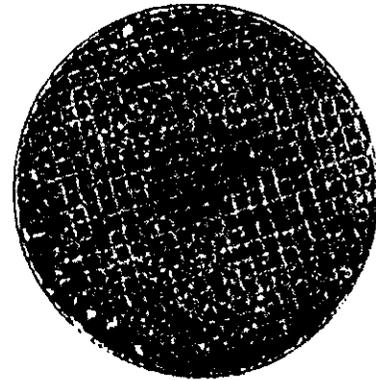

Figure 21
- Plugging (Figure 21)** The catalyst cells can be plugged with char, fly ash, or creosote. Burning garbage, cardboard, or wrapping paper produces excessive amounts of char and ash. Creosote plugging occurs when burning wet or pitchy wood or large loads on very low draft settings without allowing the catalyst to properly warm up and initiate burning. In general, creosote will not form on hot surfaces. If the catalyst is plugged, it can also indicate that creosote has built up in your chimney and needs cleaning.